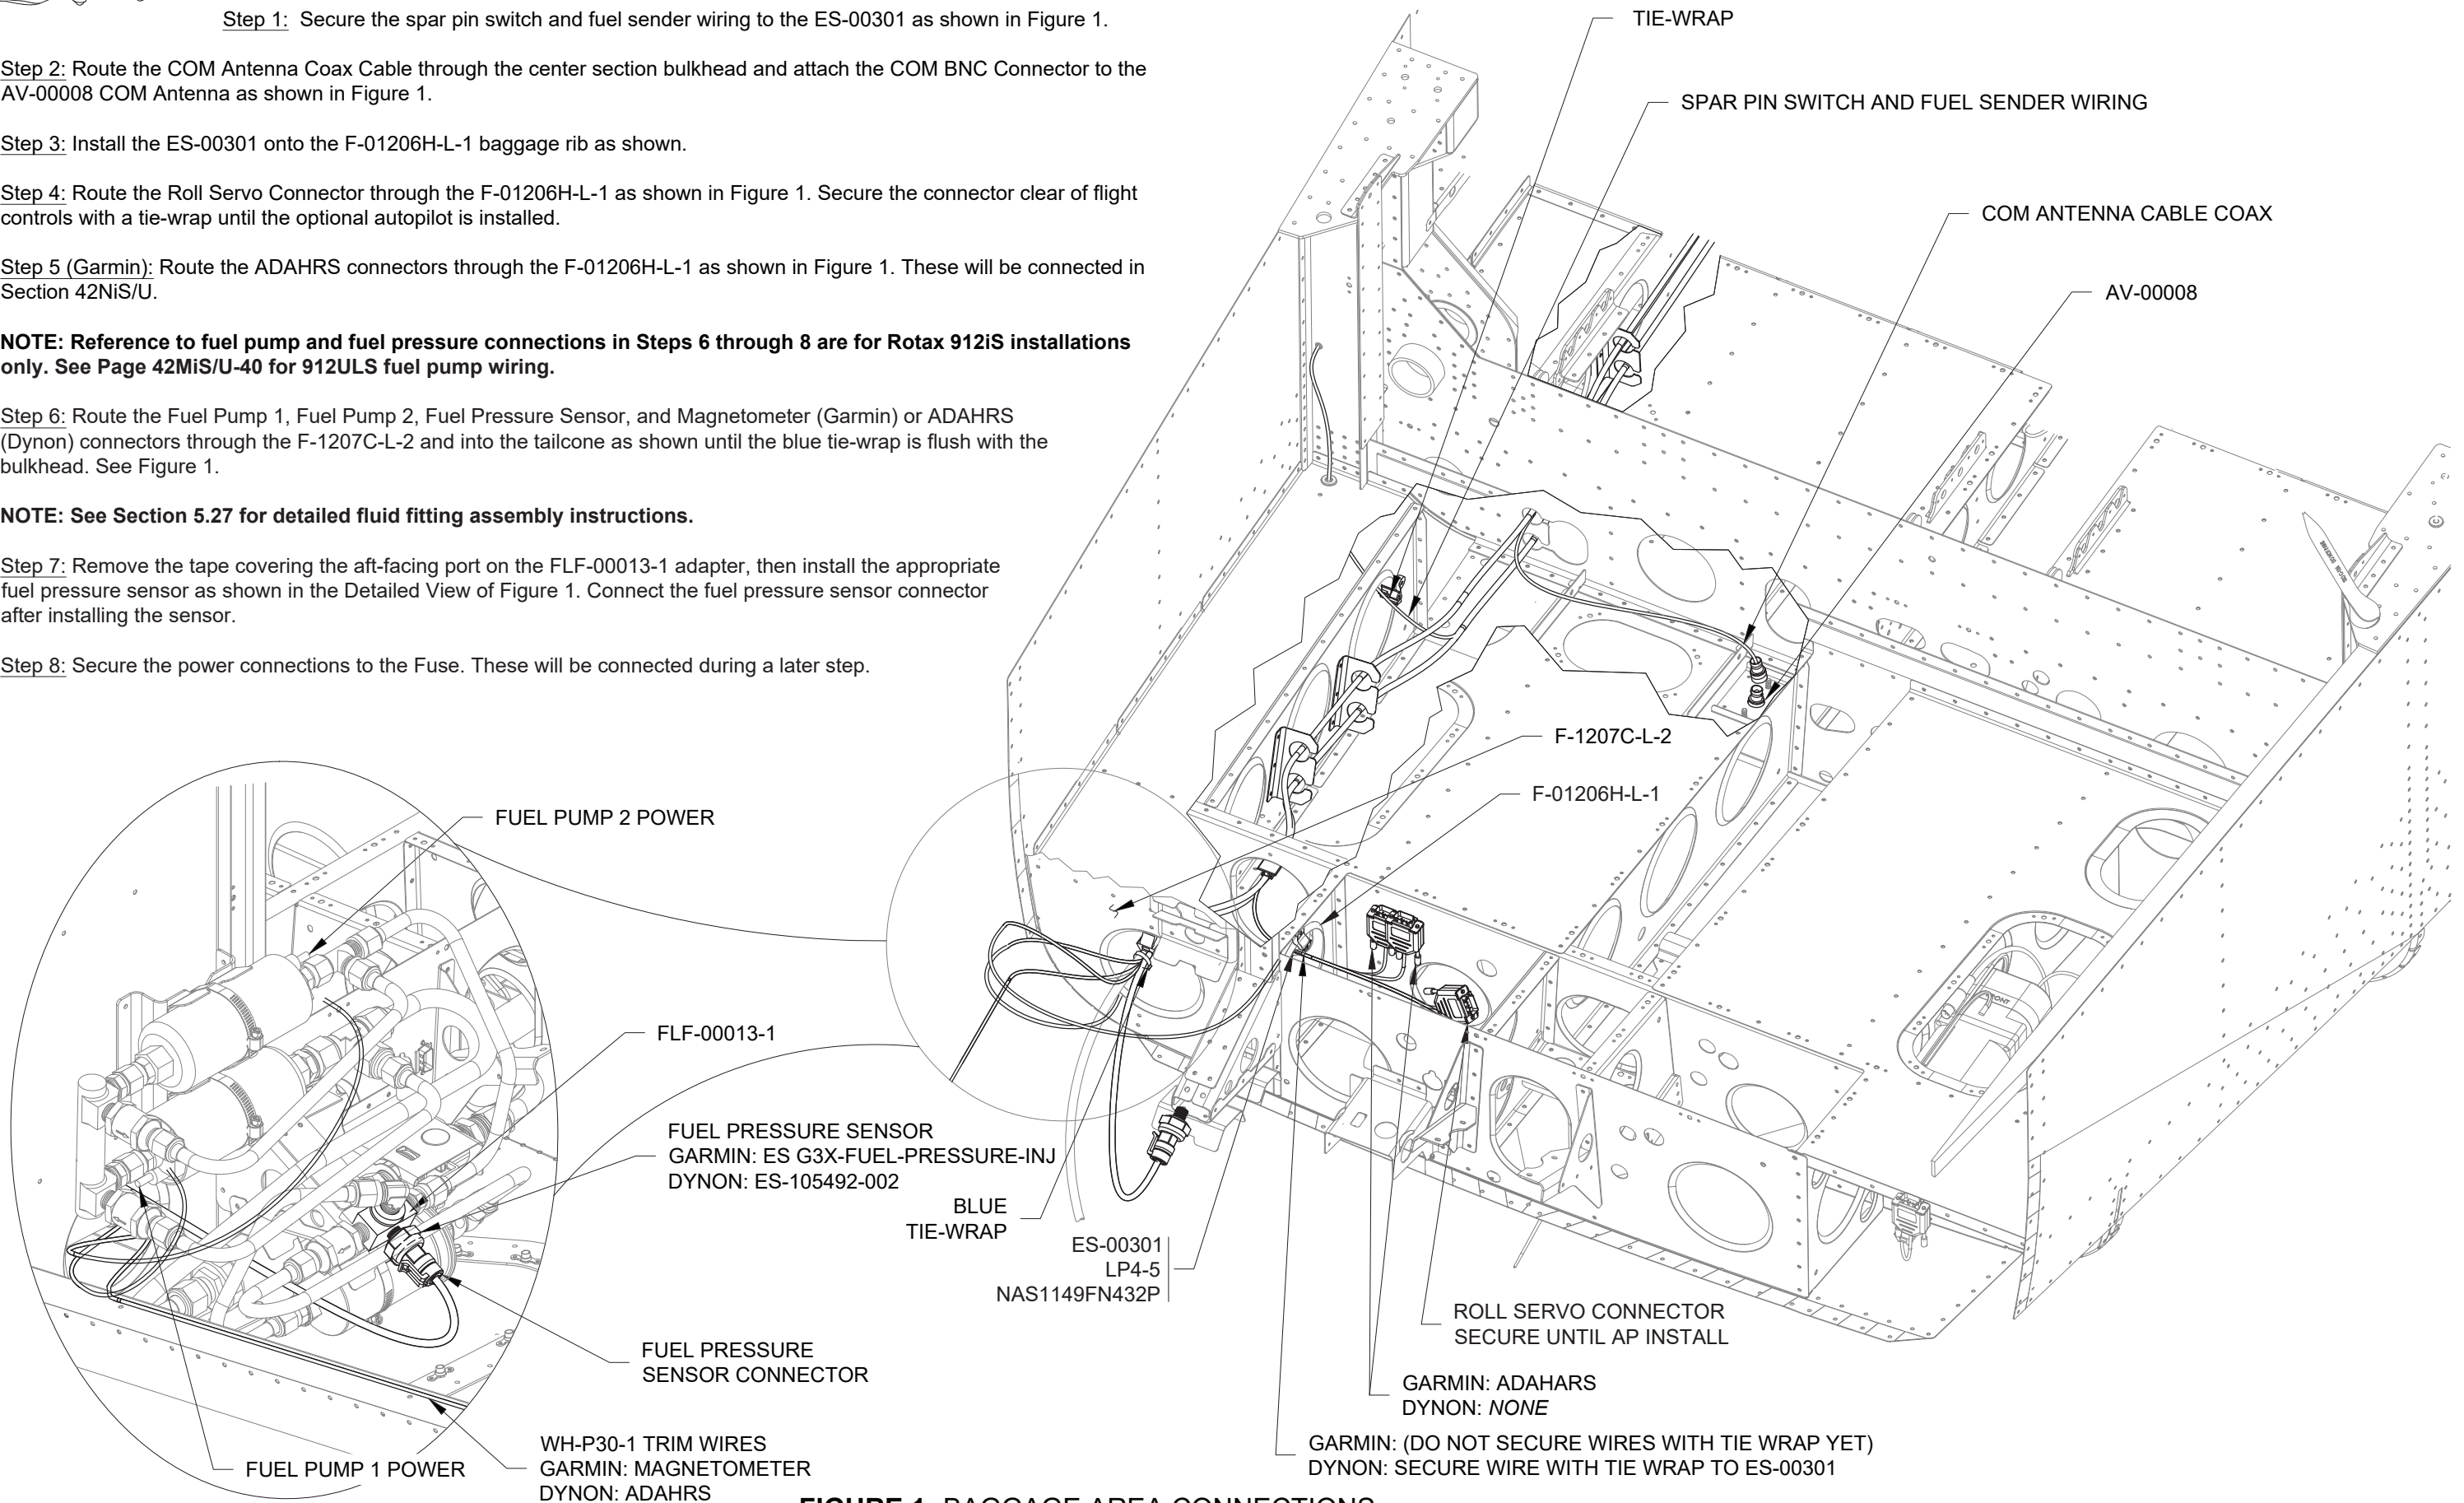

FIGURE 1: BAGGAGE AREA CONNECTIONS
Step 1: Route the Magnetometer (Garmin) or ADAHRS (Dynon) wiring inside the "hook" of the J-Stiffener on the F-1281-L Lower Skin then up the flange of the F-1208 Frame following the Aft Pitot Line. See Figure 1. Temporarily secure the wiring with tape or loose tie-wraps as shown.